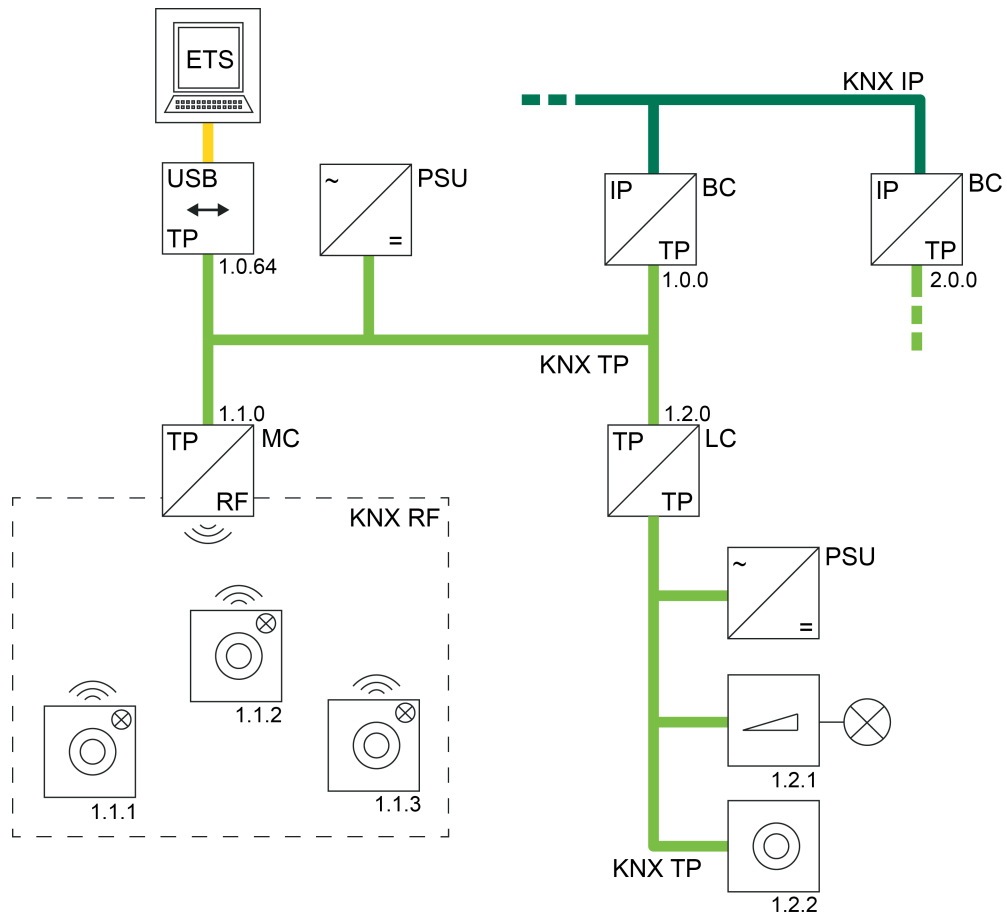

Figure 21: Example of a possible KNX topology with a KNX TP USB data interface
- Use of a KNX TP USB data interface (Figure 21):